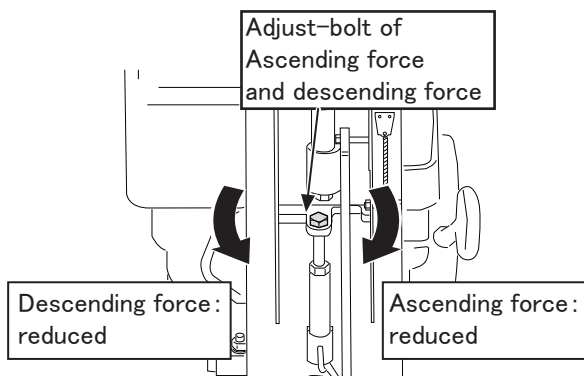

Fig. 8
- ※ **Ascending force and descending force should be equivalent. (Fig. 8)**